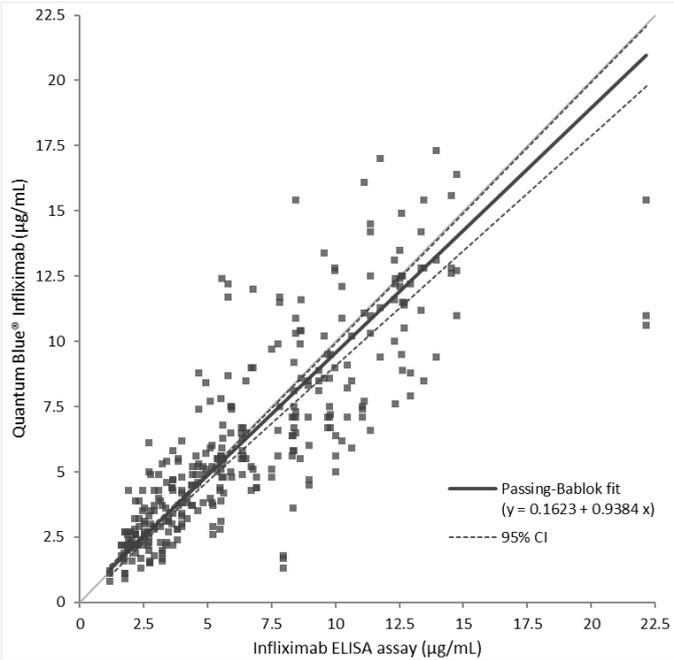

Figure 2
The method comparison study was performed according to the CLSI guideline EP09-A3. One hundred and ten (110) samples were measured in triplicate using two test cassette lots of Quantum Blue® Infliximab over three days. Reference values, with a final concentration interval of 1.2 – 22.2 µg/mL were established with a commercially available infliximab ELISA test. Bias was determined using a Passing-Bablok linear regression analysis. The results are summarized in figure 2.